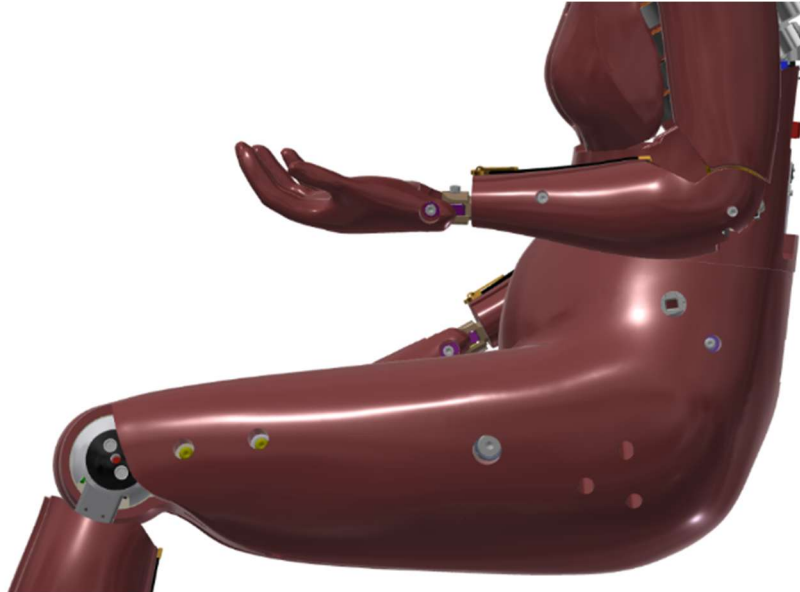

Figure 11-46. Elbow orientation for setting joint torque to 1G
- 11.4.1.2 Position the left lower arm as shown in Figure 11-46. Adjust the torque of the M10 X 20 LG. SHSS at the elbow joint such that the lower arm remains in this position under its own mass but falls once any additional mass or force is added. Repeat for right elbow.